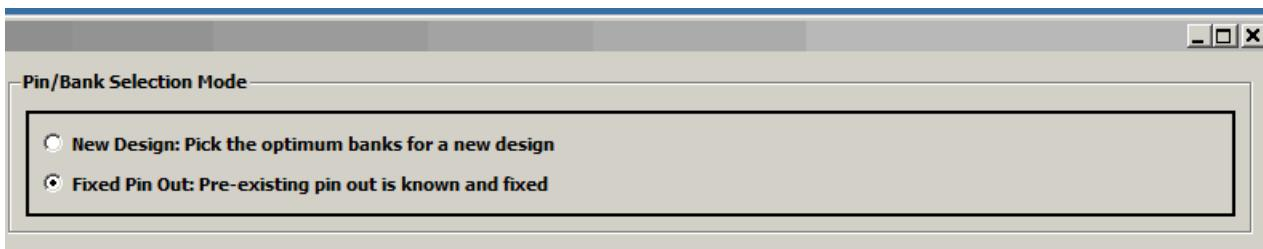

Figure 34: MIG I/O Planning Options
14. In **Pin/Bank Selection Mode**, choose **Fixed Pin Out**, then click **Next** (Figure 34).